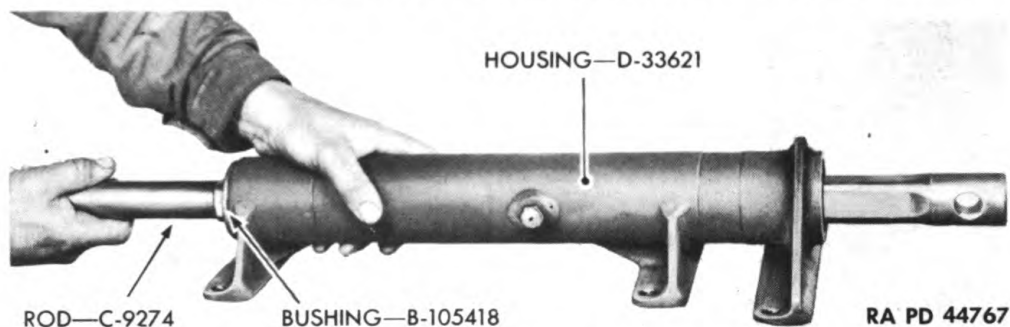

Figure 112—Removing Rod and Bushing from Housing
e. Pull rod C9274 back through housing D33621; bring bushing B105418 with the rod (fig. 112). Slide bushing off rod.